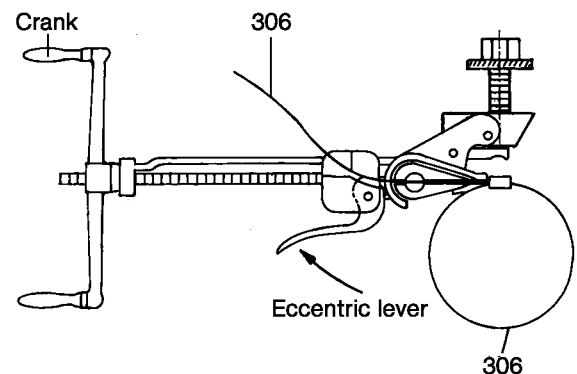

Figure 9: Clamping the clamping band by means of clamping tool Band-It and adapter J050.
- Introduce band end of the clamping band (306) to the clamping band lock into the clamping tool with adapter.
- Hold clamp end with the eccentric lever of the clamping tool, and clamp clamping band (306) by turning the crank (Figure 9).